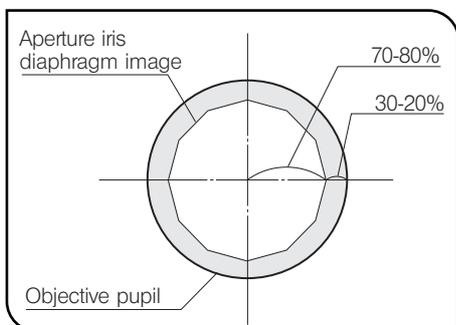
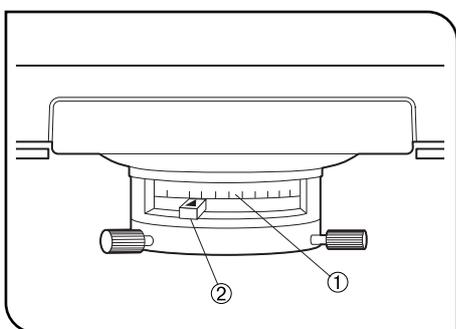

Fig. 17
Fig. 18
2 Aperture Iris Diaphragm (Figs. 17 & 18)
- The aperture iris diaphragm determines the numerical aperture of the illumination system. Matching the numerical aperture ① of the illumination system with that of the objective provides better image resolution and contrast, and also increases the depth of focus.
- Since the contrast of microscope specimens is ordinarily low, setting the condenser aperture iris diaphragm to between 70% and 80% of the N.A. of the objective in use is usually recommended. If necessary, adjust the ratio by removing the eyepieces and looking into the eyepiece sleeves while adjusting the aperture iris diaphragm knob ② until the image shown in Fig. 17 is seen. (Fig. 18)
When using a 100X objective, turn the aperture iris diaphragm knob ② all the way to 0.9 on the scale. (Fig. 18)